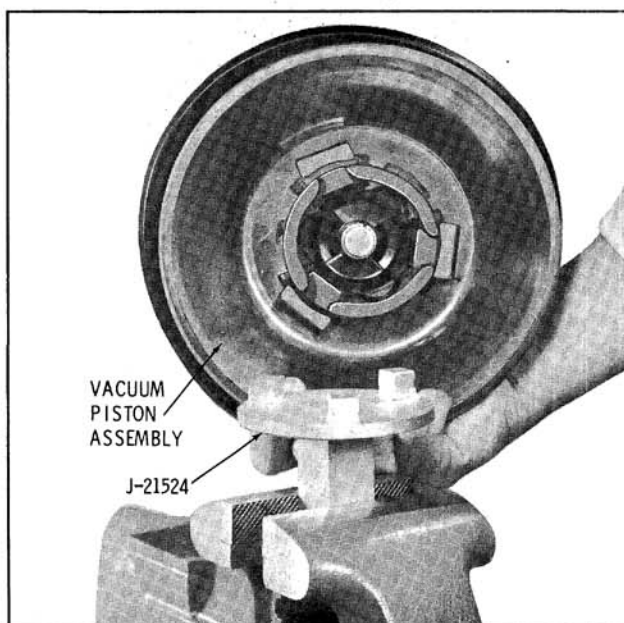

Fig. 11-34 Positioning Vacuum Piston on Tool J-21524
3. Install Tool J-21524 in a vise. Position the vacuum piston assembly on Tool J-21524 so that the three lugs on the tool fit into the three notches in the vacuum piston. (Fig. 11-34)